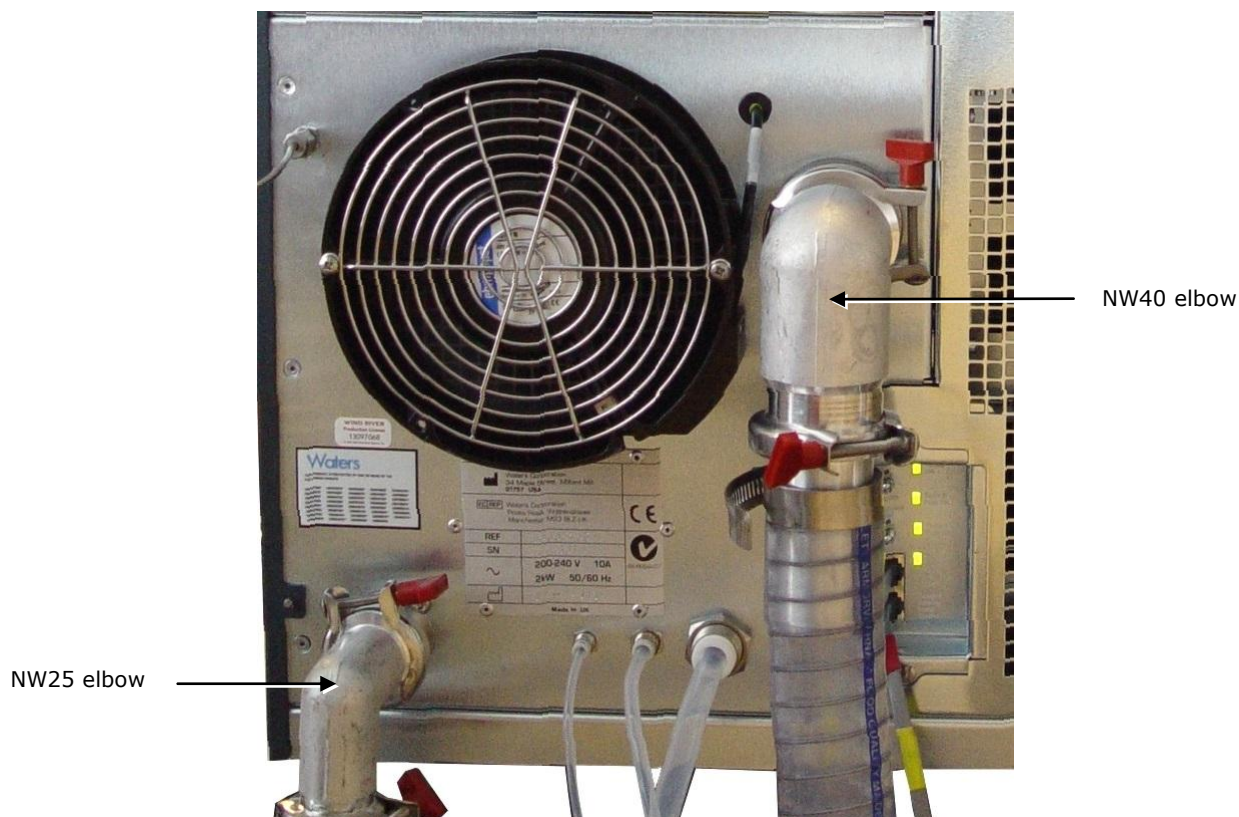

Figure 18 - Backing pump/vacuum hose configuration
5. Connect the exhaust of the XDS35i scroll pump to a suitable air extraction system using the 12-mm PVC hose supplied in the startup kit (Figure 18).